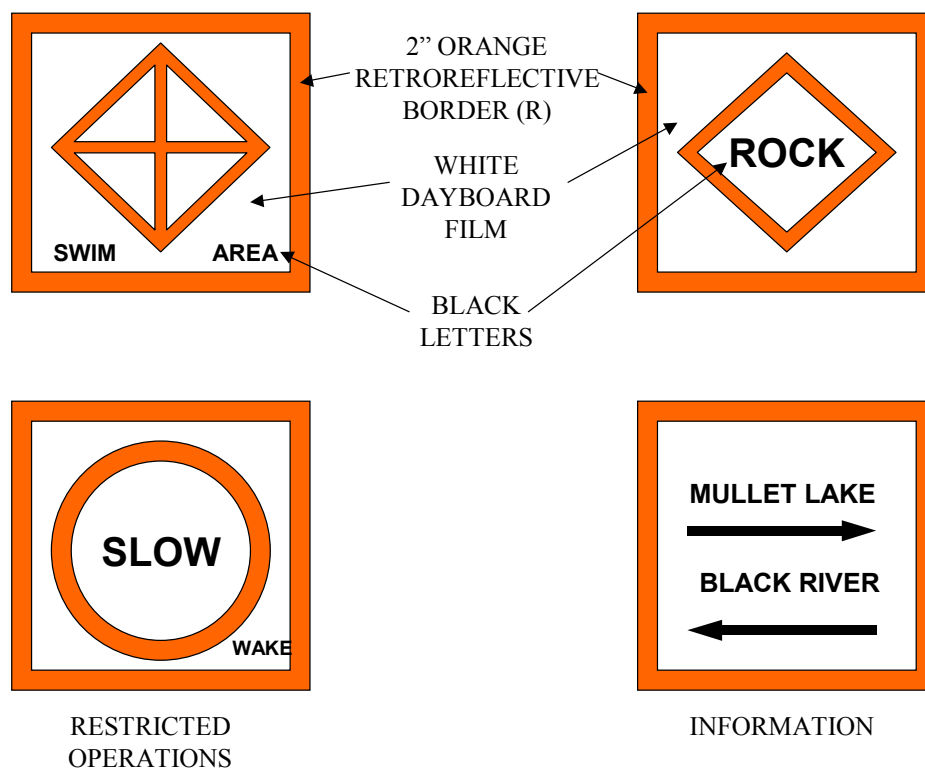

Figure 5-12. All waterways information & regulatory marks.
Additional Data: Information and regulatory marks do not have designators, as described in section B of this chapter. The border and center mark are orange retroreflective material. The remainder of the daymark is white dayboard film. Use black vinyl characters for informational wording, as necessary. Figure 5-12 illustrates the three types of information and regulatory marks, with typical wording. Information and regulatory marks are used in the ICW without addition of the yellow strip. Note—the warning mark, described in Data Sheet 5-E(8) is preferred to the "danger" version of the information and regulatory marks.